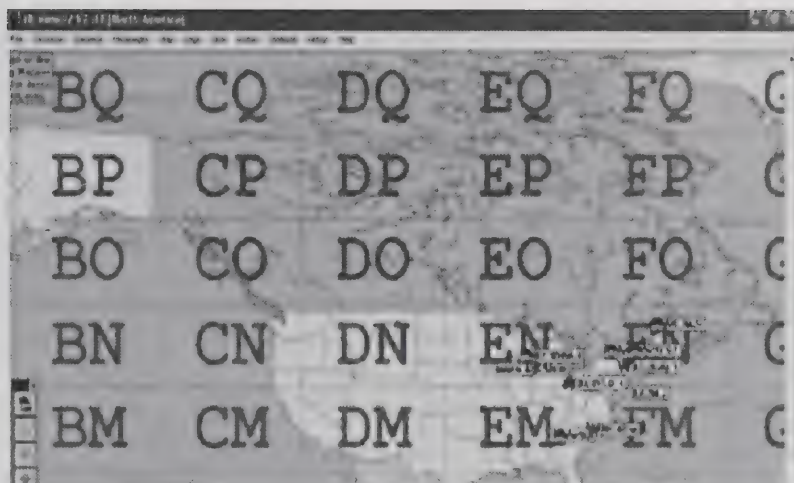

Figure 9 — UI-View APRS application showing station locations.
(3) Alternatively, you can display the stations you receive on an APRS-format map. In the example here, UI-View shows the stations received that were transmitting their location data during a pass of the ISS over the eastern half of North America. Start AGWPE first, then start UI-View (Figure 9).